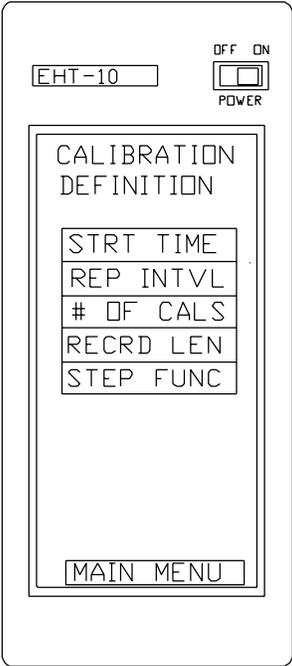

Figure 8 Calibration Definition Menu
- * Press **Calibratn** on the FST Main menu. The hand terminal displays the Calibration Definition menu, as shown in figure 8.